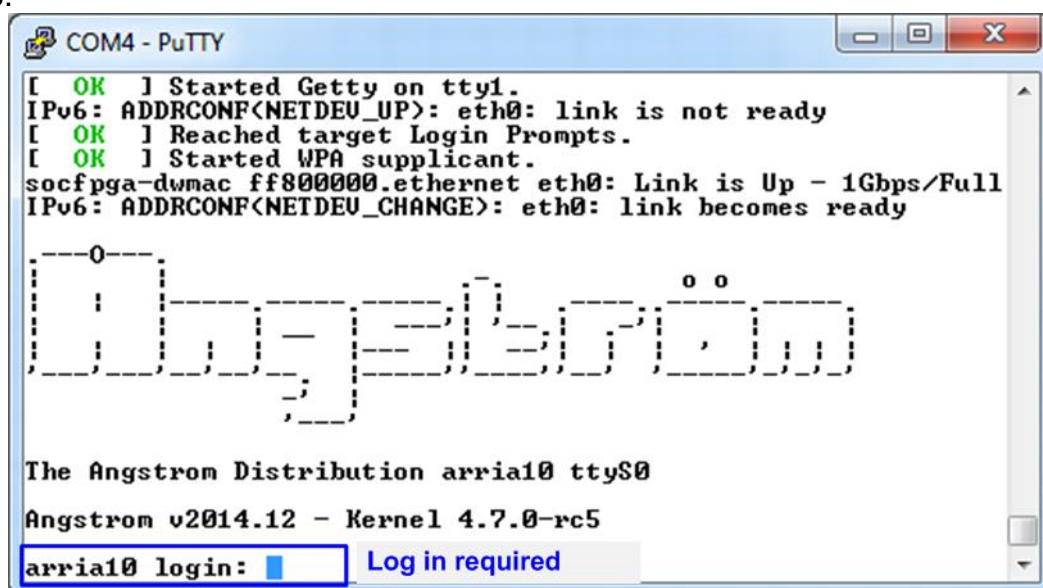

Figure 2-6 Linux Boot-up
- 9) On PC Serial console, please wait Linux boot-up until login required, as shown in Figure 2-6.